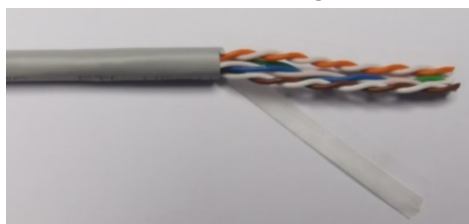

Figure 2
3.1 Remove the cable jacket, rip cord, binder and cross filler if they exist, leaving only the twisted pairs of wire. See Figure 2.